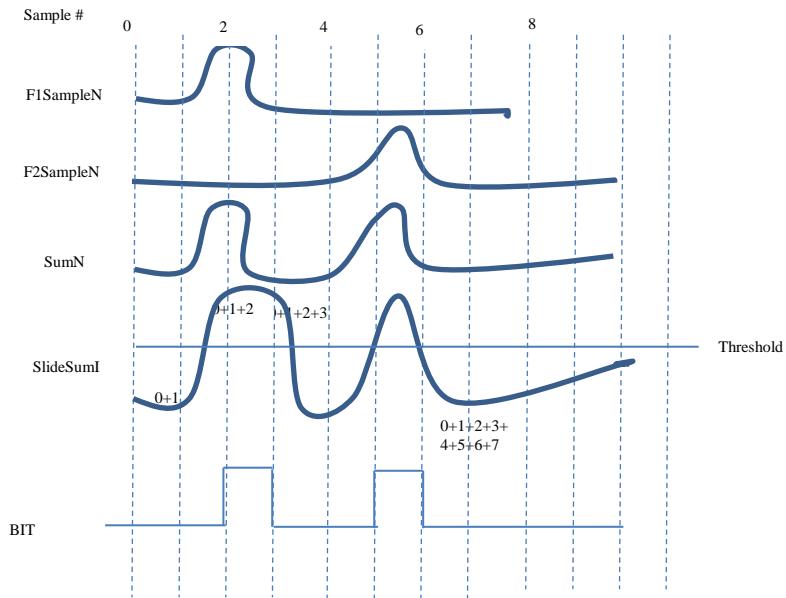

Figure 3:
- 13.1 Front panel LVDS inputs 4 to 1 are mapped to Data to SSP bits 11-8. They can be enable by Config 3 bits 15 to 12 respectively in that when a bit is set, the correspond bit of SSP data is that state of the LVDS inputs. The mapping is as shown in Figure 3: Front Panel Inputs Mapping:.